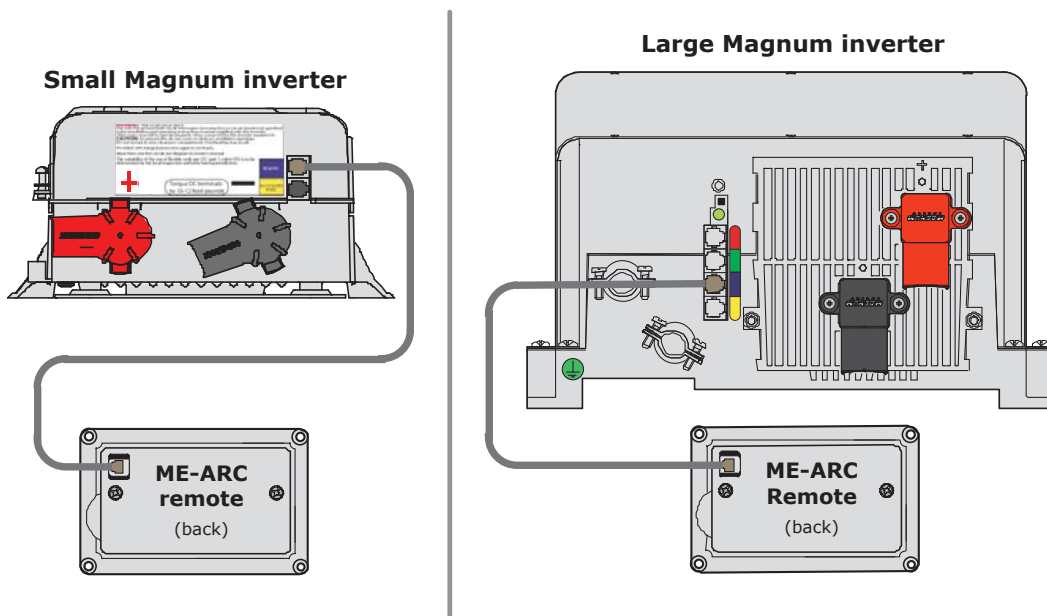

Figure 2-2, Remote Control Connections
One end of the remote cable plugs into the back side of the ME-ARC, and the other plugs into the REMOTE (blue) port on the Magnum inverter/charger (see Figure 2-2).
3. Route one end of the cable through the wall cutout to the inverter/charger, and then plug it into the RJ11 REMOTE port (blue label) on the inverter/charger—inverter has DC power, but is OFF. See Figure 2-2.
5. Route the other end of the cable to the inverter/charger, and then plug it into the inverter's RJ11 REMOTE port (blue label)— inverter has DC power, but is OFF. See Figure 2-2.